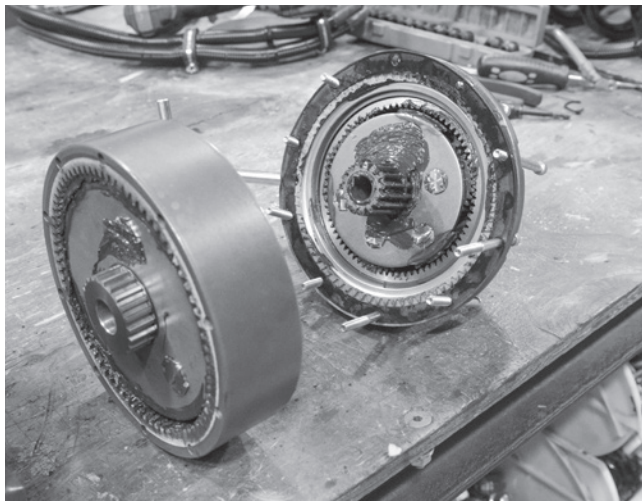

Figure 7
10. Separate both pieces of the planetary gear housing (fig. 7).